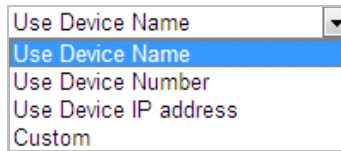

Figure 6-9 Parent Directory
- ◆ **Parent directory:** The files will be saved in a folder in FTP server. The name of folder can be defined as shown in Figure 6-9.